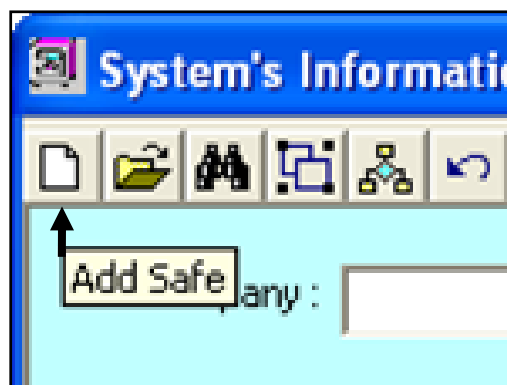

Fig. 7.13
3) Select the **Add Safe** Icon at the top left portion of the window to add a system (Fig. 7.13).